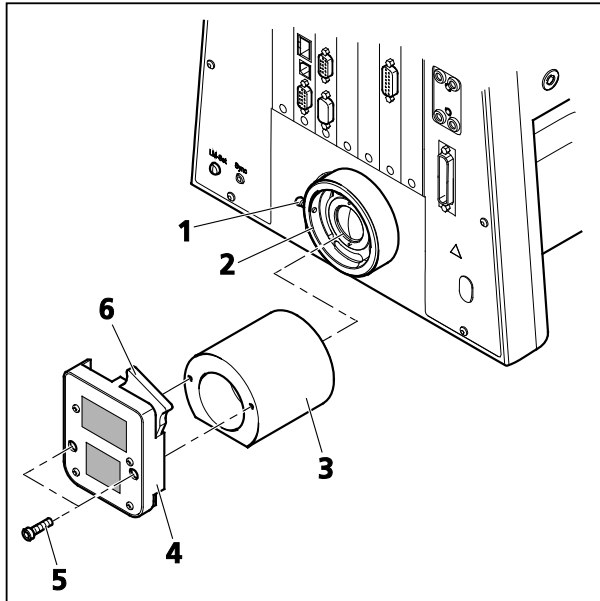

Fig. 48 Installing the LED illuminator
- Loosen clamping screw (Fig. 48/1) on transmitted-light port (Fig. 48/2). Remove the halogen lamp.
- Insert adapter optics for LED illuminator (Fig. 48/3) in the transmitted-light port with the slant pointing down, then tighten the clamping screw.
- Screw LED illuminator (Fig. 48/4) onto the adapter optics using the Allen screws (Fig. 48/5) provided.
- Push slider with diffusion disk 10° (Fig. 48/6) into the LED illuminator.